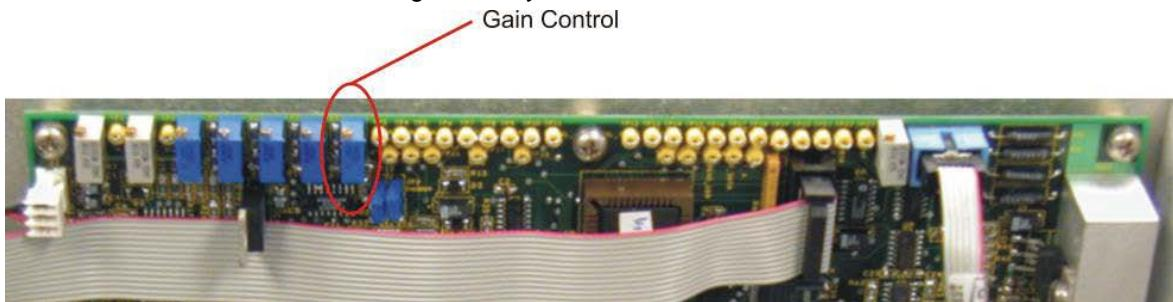

**Figure 90: Opto Flag for ZPD Adjustment**
3. With the provided #3-32 wrench, loosen the vertical screw on the optical flag by turning it 1/8 of a turn counterclockwise, as shown in Figure 90.